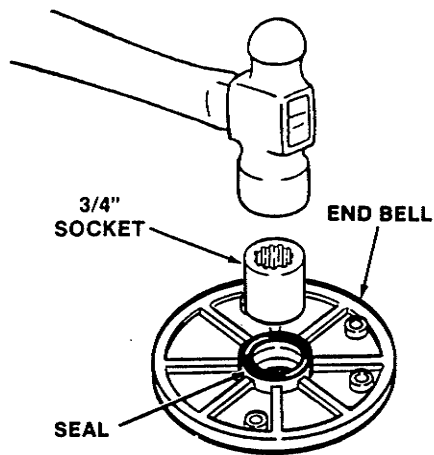

Figure 61. Installing New Seal
4. Use an object that is the same size as a 3/4" socket and a hammer to tap in the new seal. (See Figure 61.)